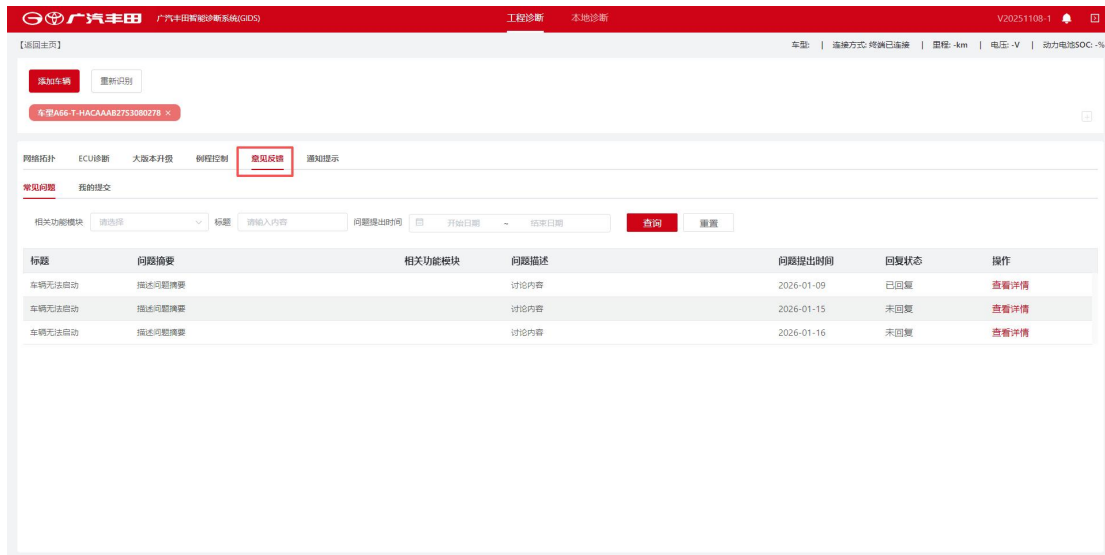

Figure 8-1 FAQ Tab
1. Click the [Feedback] tab to enter the Feedback page. The default tab is FAQ, as shown in Figure 8-1 FAQ Tab.